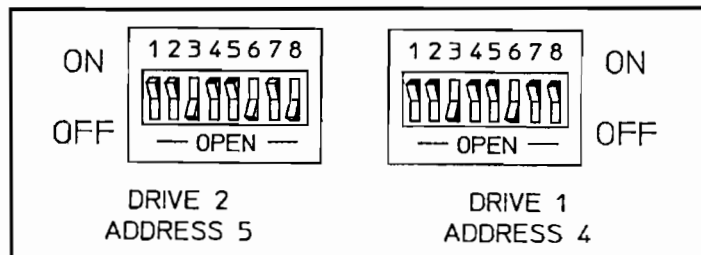

Figure 2-1. Required Switch Settings
3. Verify that the switches are set as shown in Figure 2-1. Refer to Table 2-1 for a description of each switch setting.